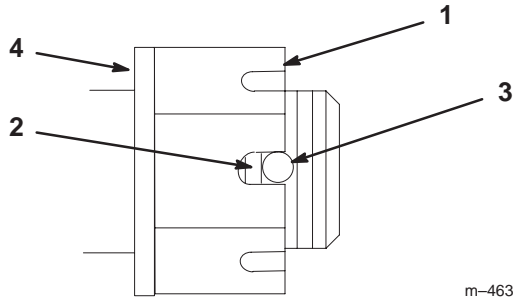

Figure 45
3. Torque slotted nut to 125 ft-lbs (169.5 N•m) (Fig. 45).
4. Check the distance from bottom of slot in nut to inside edge of hole. Two threads or less should be showing (Fig. 45).
5. If more than two threads are showing remove nut and install washer between hub and nut (Fig. 45).
6. Torque the slotted nut to 125 ft–lbs (169.5 N•m) (Fig. 45).
7. Tighten nut until the next set of slots line up with the hole in the shaft (Fig. 45).